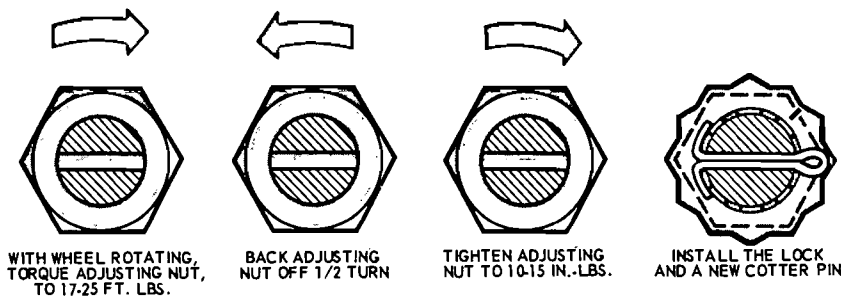

FIG. 1 Front Wheel Bearing Adjustment
lubricant from leaking into the drum or on the rotor. The entire assembly is retained to its spindle by the adjusting nut, nut lock and cotter pin (Figs. 1 and 2, Part 11-02, Section 1).
4. While rotating the wheel, hub, and drum assembly, torque the adjusting nut to 17-25 ft.-lbs to seat the bearings (Fig. 1).
5. While rotating the wheel, hub, and rotor assembly, torque the adjusting nut to 17-25 ft-lbs to seat the bearings (Fig. 1).
2. Remove the wheel cover or hub cap. Remove the grease cap from the hub. Remove the cotter pin, nut lock, adjusting nut, and flat washer from the spindle. Remove the outer bearing cone and roller assembly (Fig. 1, and 2 Part 11-02, Section 1).